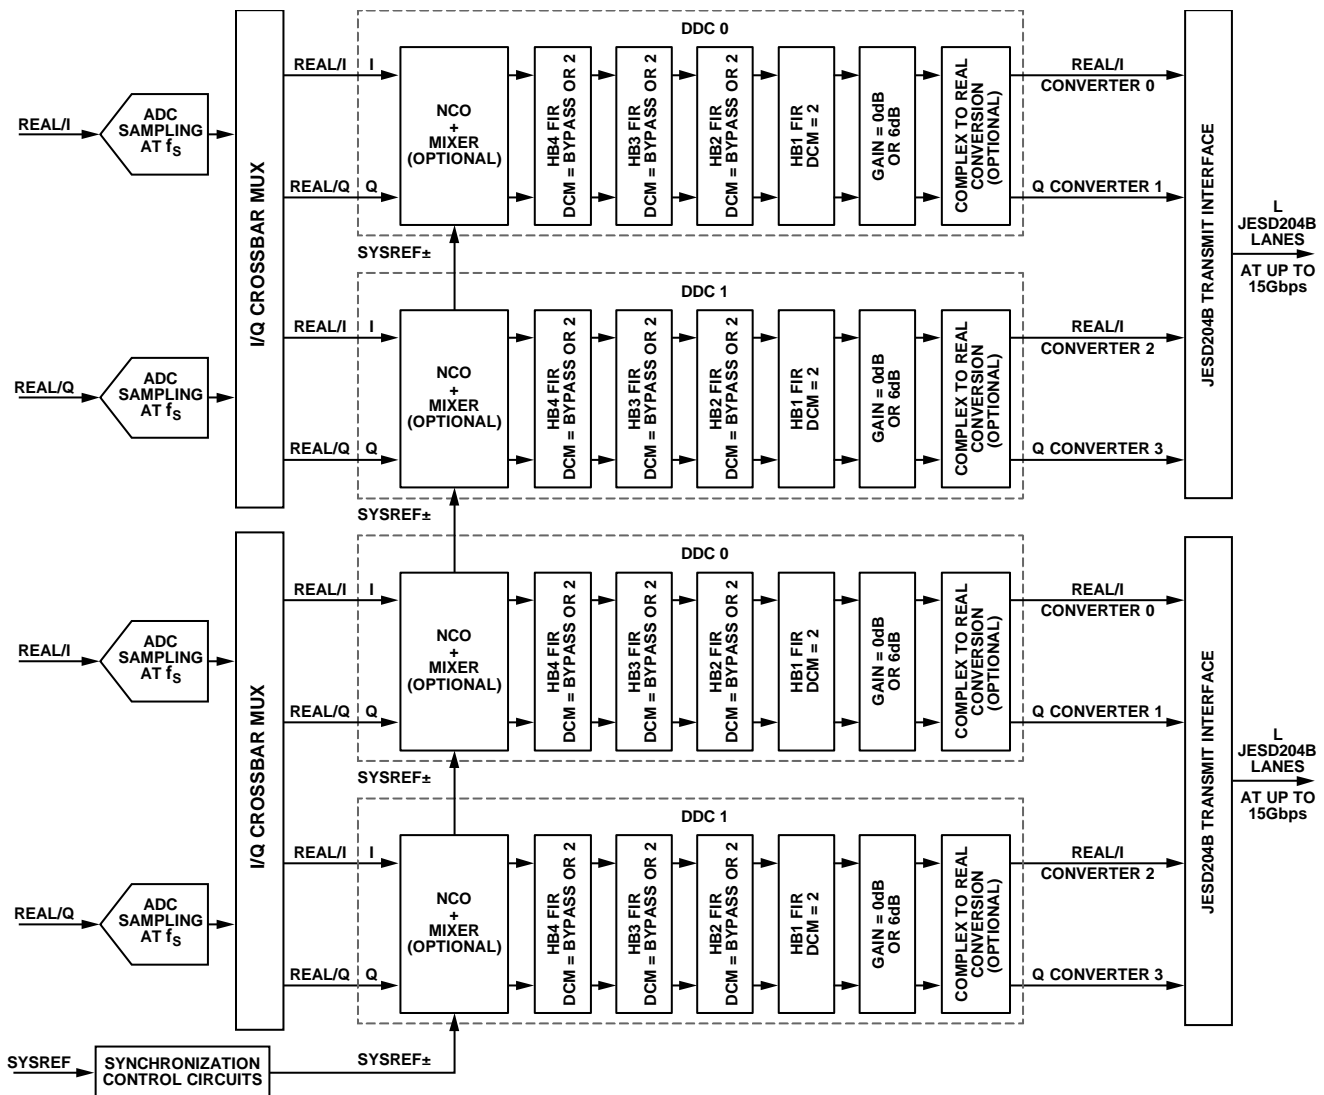

Figure 100. Two ADC + Four DDC Mode in Each Pair
The chip application mode is DDC mode (see Figure 100) with the following characteristics:
- Chip application mode = two DDC mode (see Figure 100)